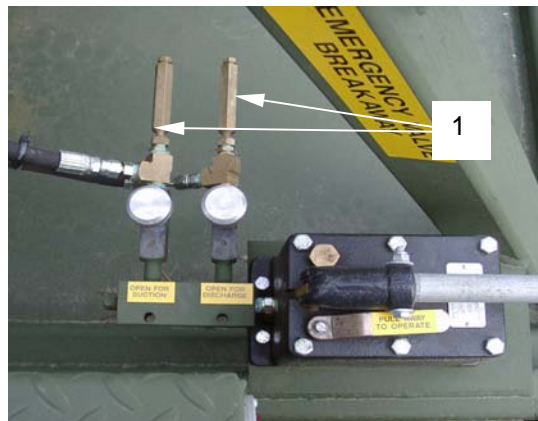

Figure 2. Fusible Frangible Links
To shut off (close) the hydraulically operated intake and drain valves, activate the fusible frangible links (**figure 2, item 1**) located on the rear platform by grasping the frangible link with the hand and apply downward pressure until it breaks.